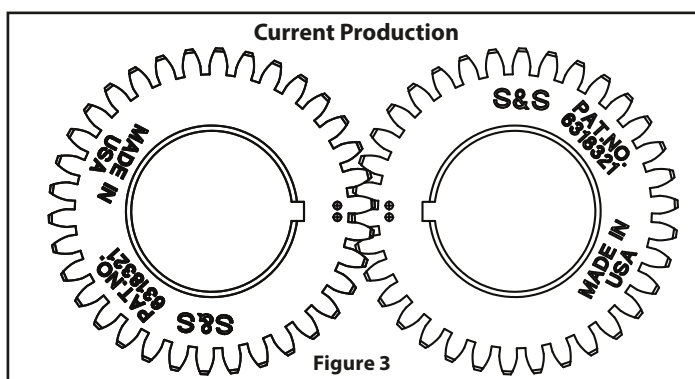
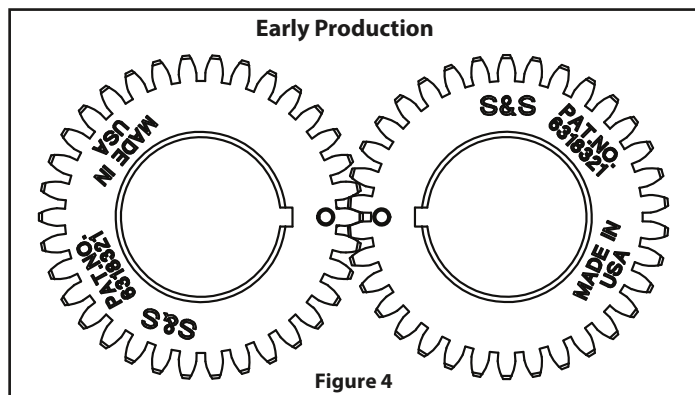

Figure 3
Figure 4
6. Apply assembly lube to bearing surface of rear (longer) camshaft and inside the rear bearing. Support bearing by inner race. Align front and rear camshaft gear timing marks as shown in **Figure 3** or **Figure 4**. Press camshaft all the way into bearing.
shown in **Figure 3**. Older S&S gear drive camshafts, have the timing marks shown in **Figure 4** Cams with early and late gear styles must not be used together.